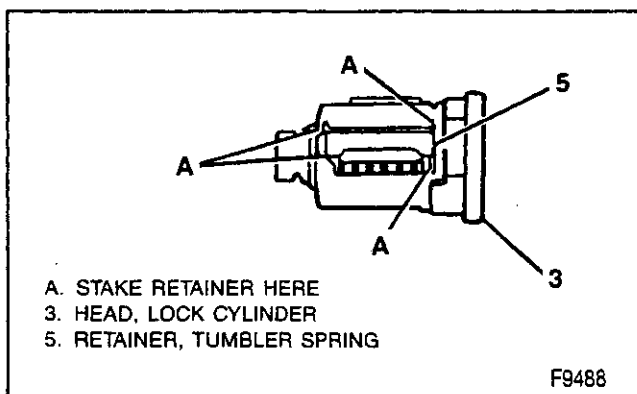

Figure 20—Installing Spring Retainer
5. Insert the spring retainer so that the end prongs slide into the slots at each end of the cylinder. Press the retainer down (figure 20).